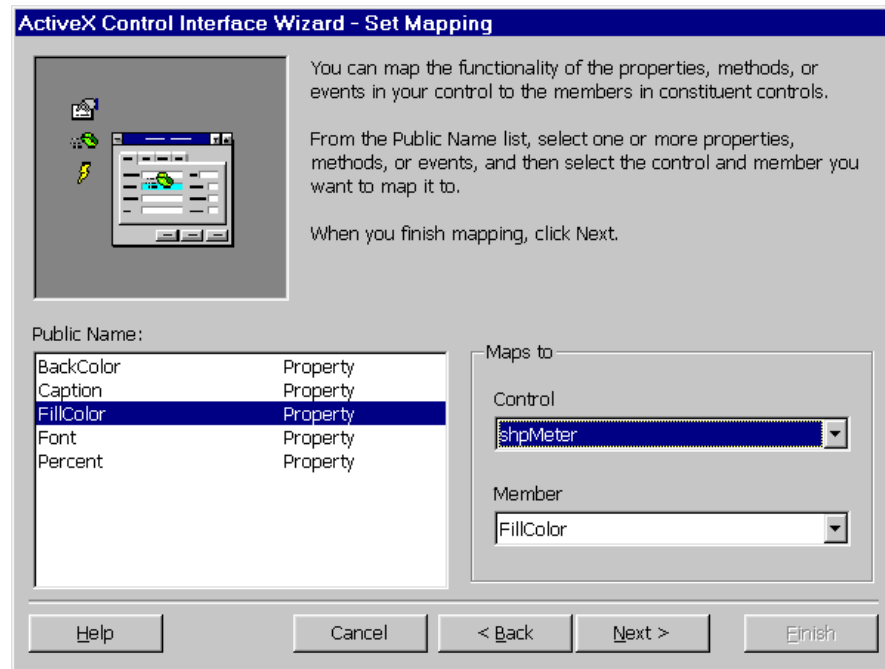

Figure 13. Use this page to map new properties to existing properties of constituent controls.
5. **Set property mappings:** The next page allows you to map your control's properties to existing control properties. Figure 13 shows the wizard after mapping the new FillColor property to the FillColor property of shpMeter. Select mappings as in the following table: